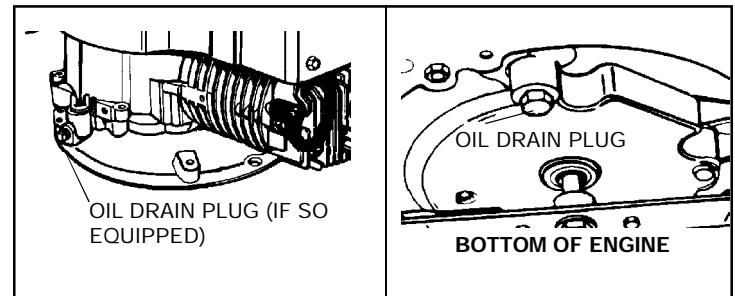

Figure 6
- B. Clean area around oil drain plug (see Figure 6).